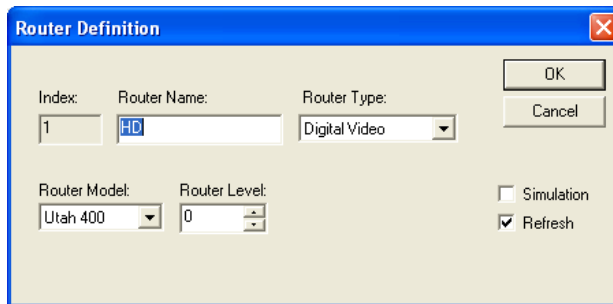

FIGURE 2-2. Router Dialog
3. In the serial ports window (Figure 2-2) choose the desired baud rate and parity settings for the serial port that is highlighted in the window.